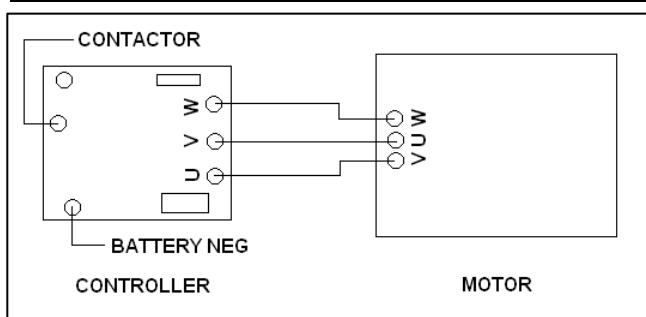

Figure 9-1
- Mark traction motor cables (if not already marked), with motor terminal identification. Figure 9-1 shows the motor/controller connections.